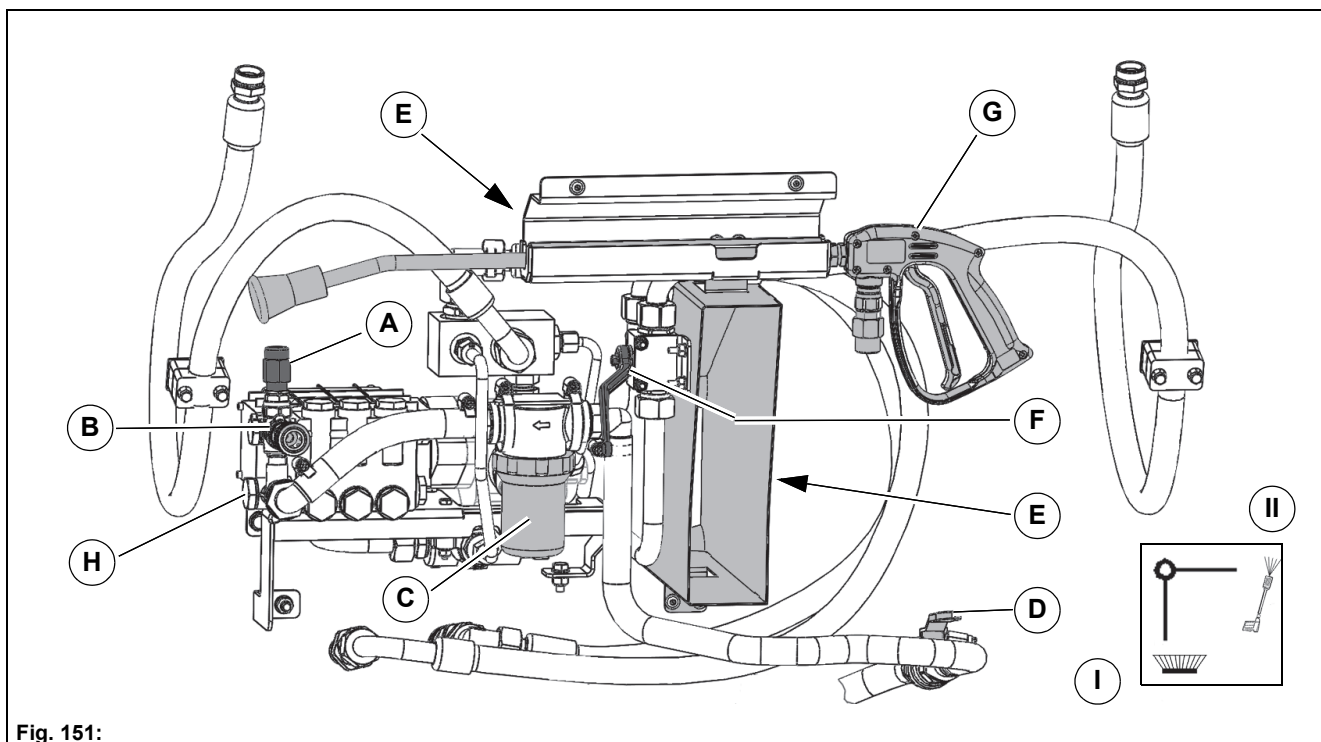

Fig. 151:
The high-pressure cleaner **Fig. 151-H** is located behind the rear flap of the dirt hopper. Check the following before starting up:
- Check the water filter **Fig. 151-C** of the high-pressure cleaner and clean it if necessary.
2. Remove the pressure hose from the hose holder and plug it on at the connection **Fig. 151-B**.
3. Set the changeover valve **Fig. 151-F** to the *high-pressure cleaner* position.
4. Open the fresh water supply **Fig. 151-D**.
6. If necessary, set the pressure controller **Fig. 151-A** to the required working pressure.
7. Clean the surface with the lance **Fig. 151-G**.
8. Reset the changeover valve to the suction fan position and close the fresh water supply again. After cleaning stow the lance and the pressure hose back in the stowage **Fig. 151-E**.